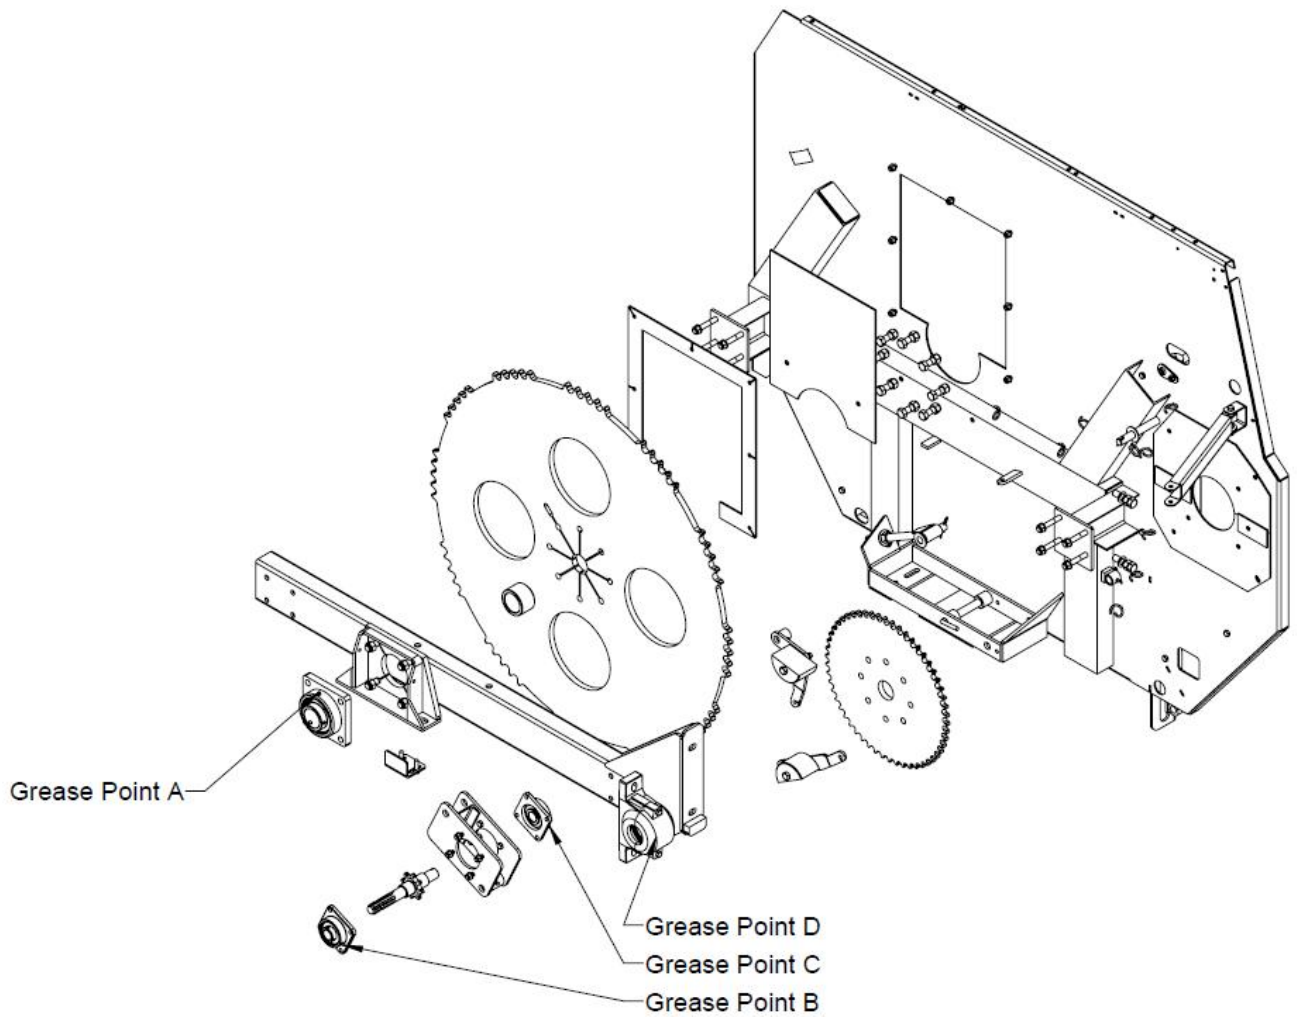

Figure 12: Front grease points
- a. The main rotor bearing at the front of the Keenan Mech-Fiber (A, figure 12).
- b. Two main bearings on the front and rear of the input drive shaft (B & C, figure 12).
- c. The auger bearing at the front of the Keenan Mech-Fiber (D, figure 12)